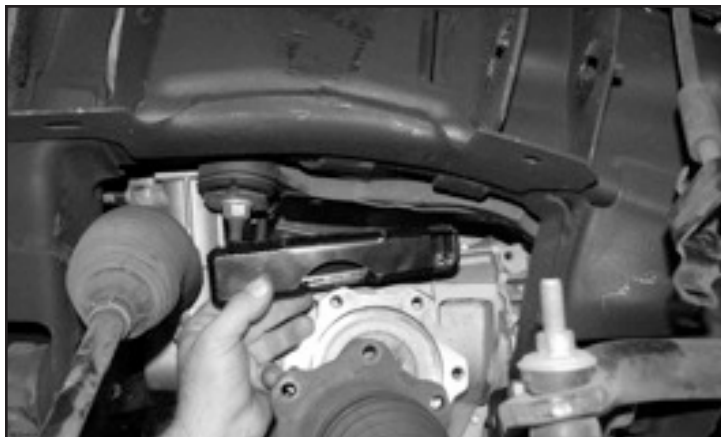

FIGURE 19 - STEP 18
18. Locate the FT20625 driver side diff mount and the FT20626 passenger side diff mount. Starting on the driver side, remount the diff with two M12-1.75 x 70mm bolts. **SEE FIGURE 19**